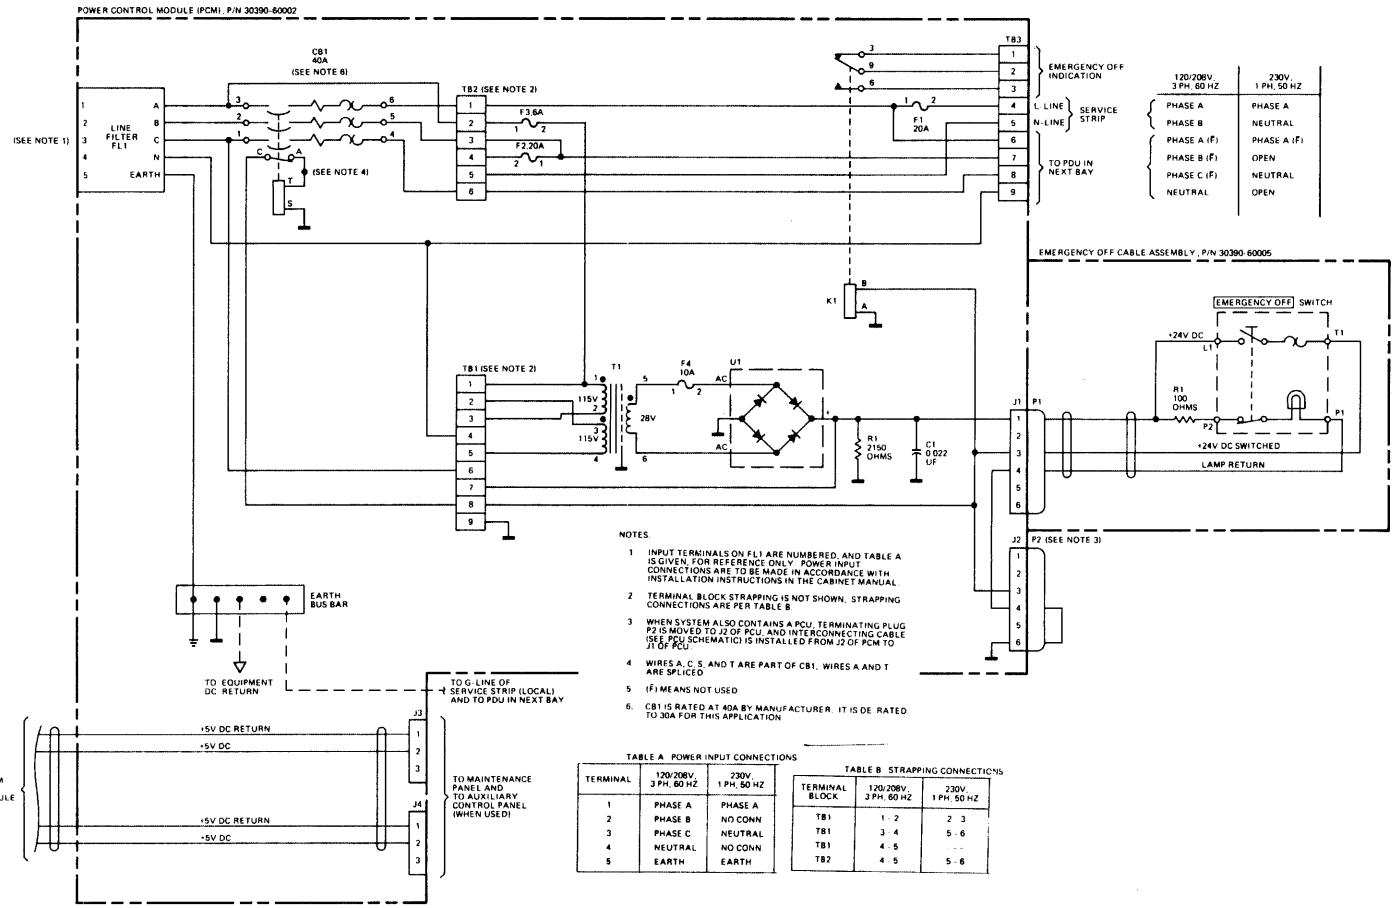

Figure 2-11. PCM Schematic Diagram
2. Verify that jumpers have been correctly installed on TB1 and TB2, as listed within figure 2-11.